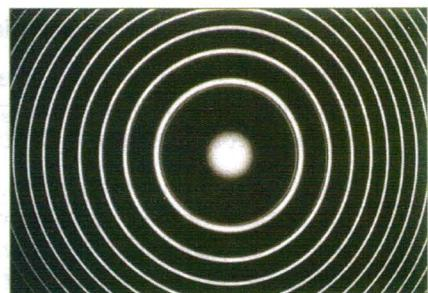

Figure 9a
- Figure 9a shows the initial appearance of the pattern with no imposed magnetic field.